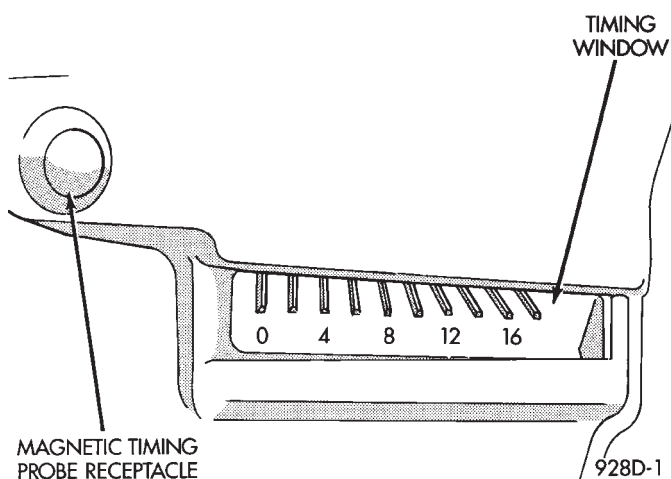
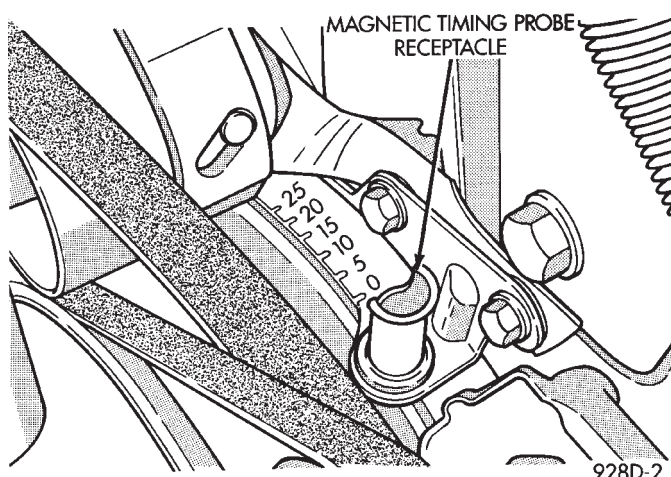

Fig. 10 Timing Scale—2.2L TBI, 2.5L TBI and Turbo I Engines
Fig. 11 Timing Scale—3.0L Engine
(3) Turn selector switch to the appropriate cylinder position.
(4) Start engine and run until operating temperature is obtained.
(5) With the engine at normal operating temperature, connect the DRB II to the diagnostic connector. Access the State Display screen. Refer to the appropriate Powertrain Diagnostics Procedures Manual. **If not using the DRB II tester, disconnect the coolant temperature sensor electrical connector.** The electric radiator fan will operate and the Check Engine light will turn on after disconnecting the coolant sensor or starting the DRB II procedure.
(6) Aim Timing Light at timing scale (Fig. 10 or Fig. 11) or read magnetic timing unit. If flash occurs when timing mark is before specified degree mark, timing is advanced. To adjust, turn distributor housing in direction of rotor rotation.